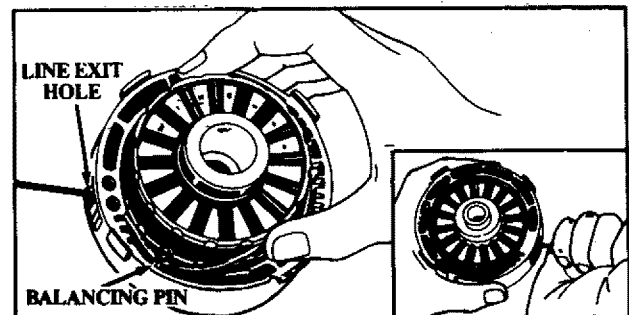

Figure 23
- e. Insert about 6 inches of Line from the inside of the Hub through the Line Exit Hole to the outside to keep the Line from backing into the Head. Figure 23.
- f. Route the Line behind the Balancing Pin (Figure 23) while carefully placing the Spool in the Hub.
- g. Pull on the Line extending outside the Hub to make sure the Line will not advance. See Inset, Figure 23. This indicates that the Line is routed properly.
- j. Pull on the Line again from outside the Hub. If the Line can be pulled from the assembled head, it is not properly routed around the Balancing Pin and will feed continuously when the Trimmer Head turns. Remove Cover and re-route Line as shown in Figure 23.